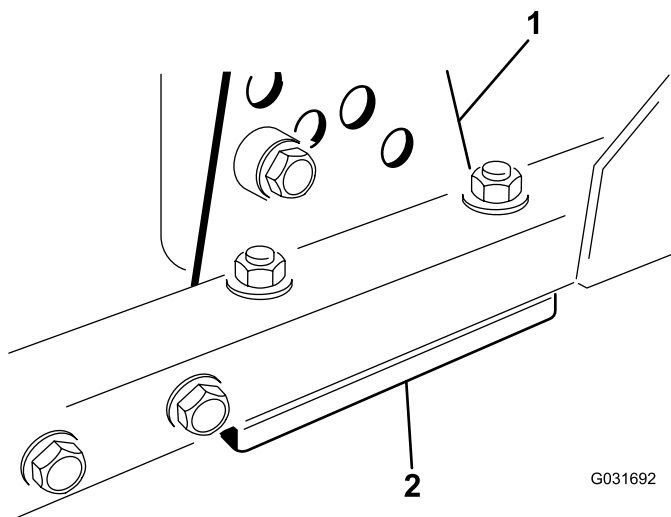

Figure 95
1. Remove the height-of-cut bracket (front, left, or right) from the deck frame (Figure 95).
2. Adjust 1.5 mm (0.060 inch) shims and/or 0.7 mm (0.030 inch) shim between the deck frame and bracket to achieve the desired height setting (Figure 95).